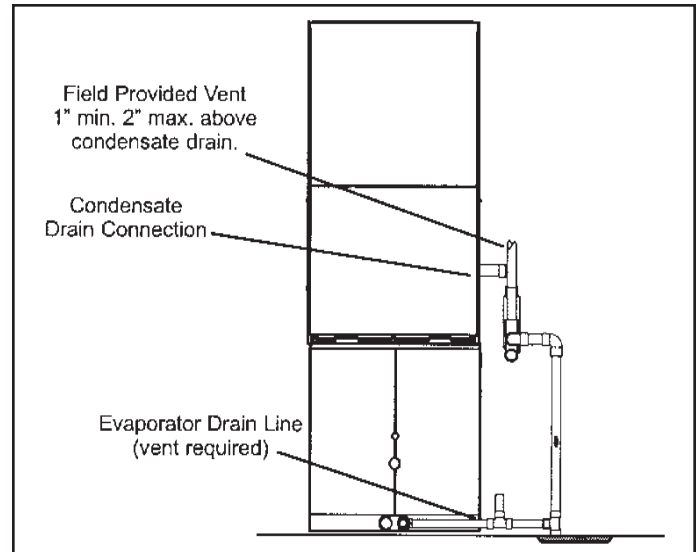
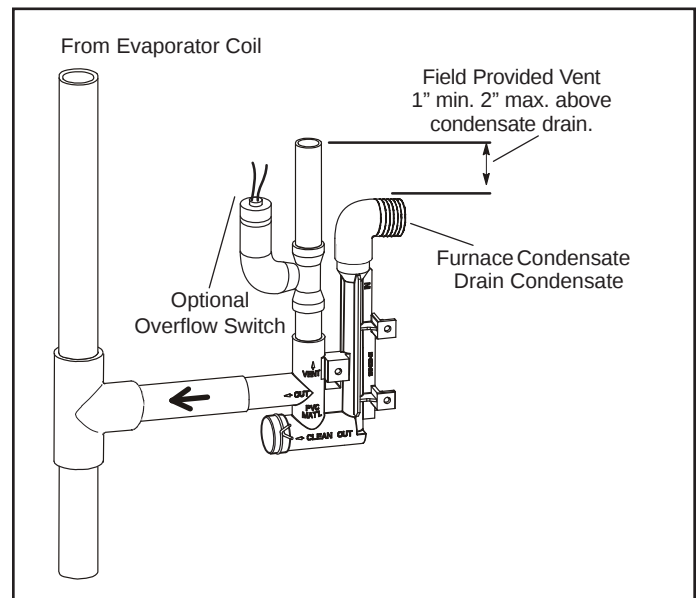

Figure 38. Evaporator Coil Using a Common Drain
Figure 39. Condensate Trap With Optional Overflow Switch
4. Figure 38 shows the furnace and evaporator coil using a separate drain. If necessary, the condensate line from the furnace and evaporator coil can drain together. See Figure 39. The field provided vent must be a minimum 1" to a maximum 2" length above the condensate drain outlet connection.